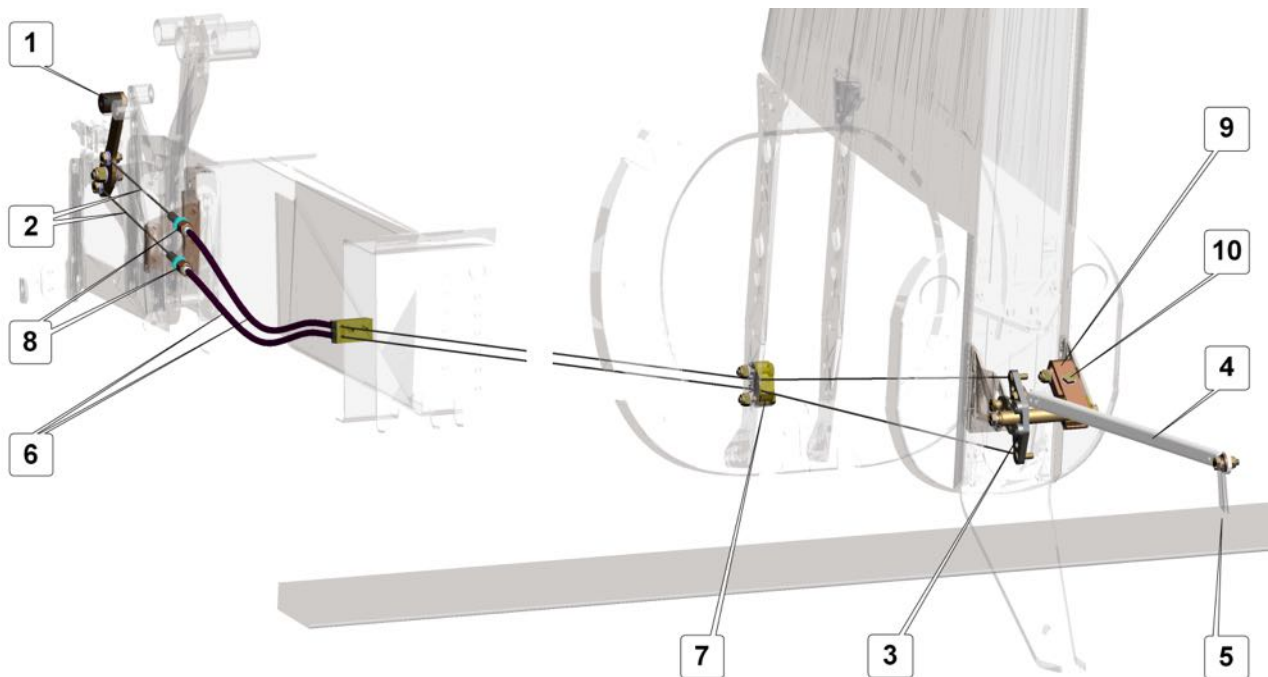

Fig. 5. AFHT antiservo/trim tab control system
The AFHT antiservo/trim tab control system (**Fig. 5**) is combined, it consists of a lever (1), two Ø1.5 mm (1/16 in) cables (2), a bellcrank (3), a friction clamp (9) and a rod (4).